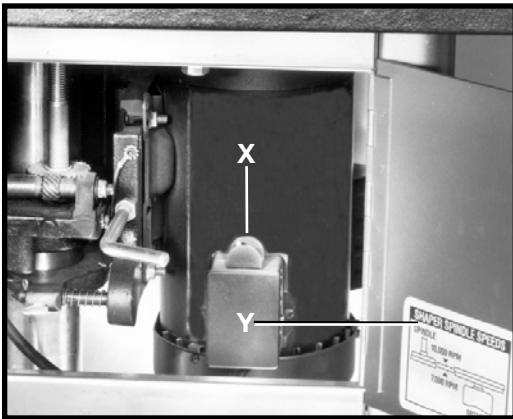

Fig. 23
A chart (Y) Fig. 23 that illustrates the correct belt placement for 7,000 or 10,000 RPM is located on the inside panel of the motor access door.
1. Open motor access door (Y) Fig. 23.
The motor is equipped with a reversing switch (X) Fig. 23, located on the motor junction box.